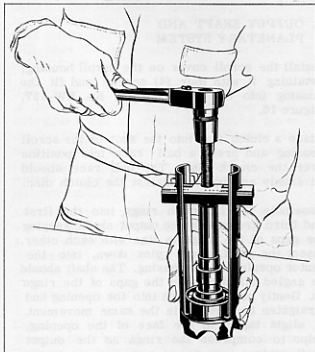

FIG. 18 REMOVING INPUT SHAFT INNER BEARING
The last ball bearing on the input shaft may now be removed. Use the bearing puller, No. KW-159, Figure 18, for this operation. The ball driver can be removed by backing out the five (5) retaining screws.